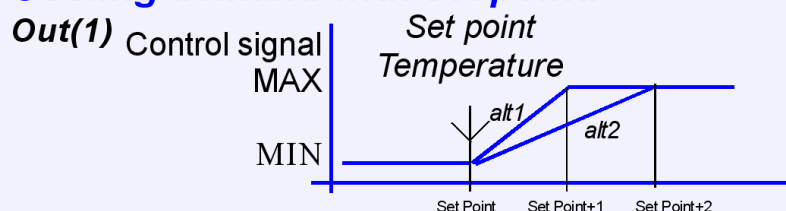
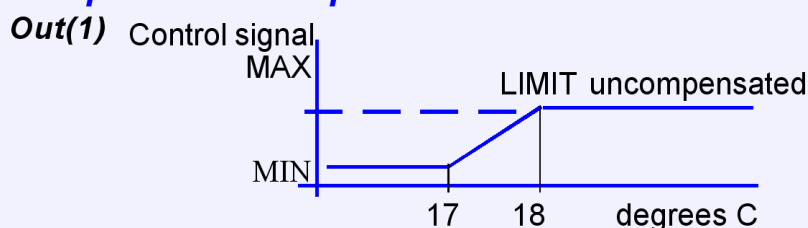

Figure 2 The control signal of the cooling demand with set point
Figure 4 The control signal of the temperature compensation with LIMIT = set point -5°C
Set point values of temperature (air cooling and heating) and air quality (CO₂) can be adjusted individually by the unit's *maintenance push buttons*. The different functions with associated outputs are seen in figures 2-7. When a set point value is changed the control curves of that parameter are parallel displaced! Out(1) controls both air quality and temperature but temperature overrules so if the temperature sinks below the LIMIT value the air supply is cut down. Two different gain alternatives can be used in the temperature/cooling feed-back loop. In *alternative 1* the P-band is 1 degree and in *alternative 2* the P-band is 2 degrees (see figure 2). Temperature compensation of the demand control is done for temperatures below LIMIT value (see figure 4).